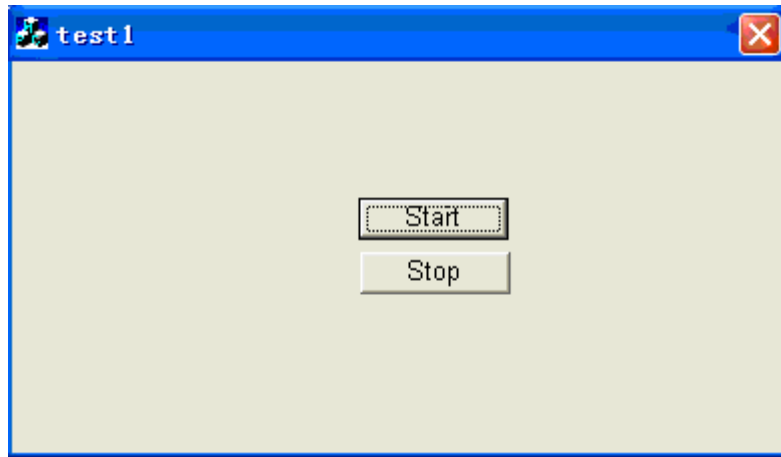

Figure 5-11 The page of the program
(14) Build and execute the program. Press “START” button, the axis 0 will move 200000 pulses. When the axis 0 is moving, the axis will stop after the “STOP” button is pressed. See figure 5-11.